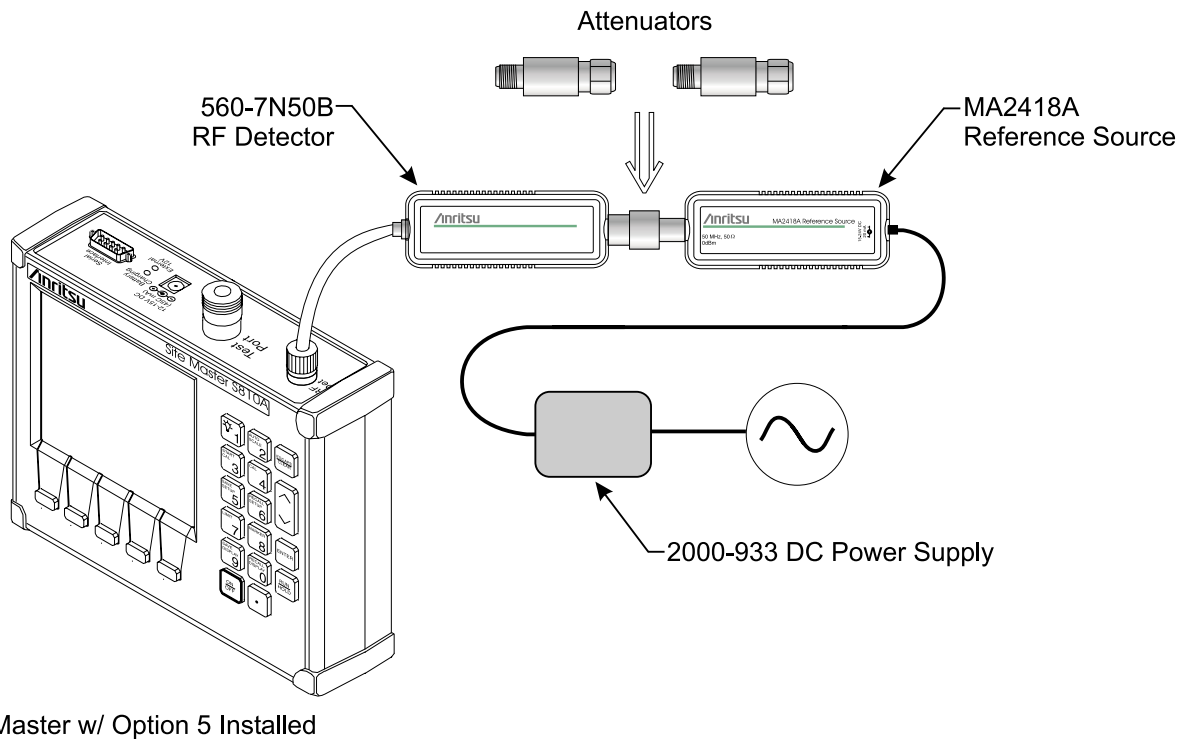

Figure 3. Power Monitor Verification
1. Connect the DC power supply to the MA2418A Reference Source. (Refer to Figure 3.)
10. Connect the output of the MA2418A Reference Source to the two attenuators so as to add 40 dB of attenuation (Figure 3).
1. Connect the test equipment as shown in Figure 3.